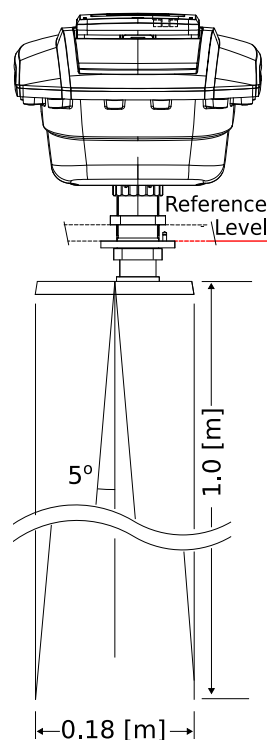

Figure 2.1: The 5° [deg] half top angle of the F08 antenna beam.
- It is advised to choose a mounting position such that the WaveGuide radar beam is free of large reflecting obstacles (the beam of the F08 antenna can be approximated to a conical shape having a 5° [deg] half top angle as shown in Fig. 2.1). The minimum horizontal distance between a sensor and any obstacle in the beam's path should be at least 10% of the vertical distance between the sensor and the obstacle. This does not only include horizontal objects in the beam's path but also vertical structures.